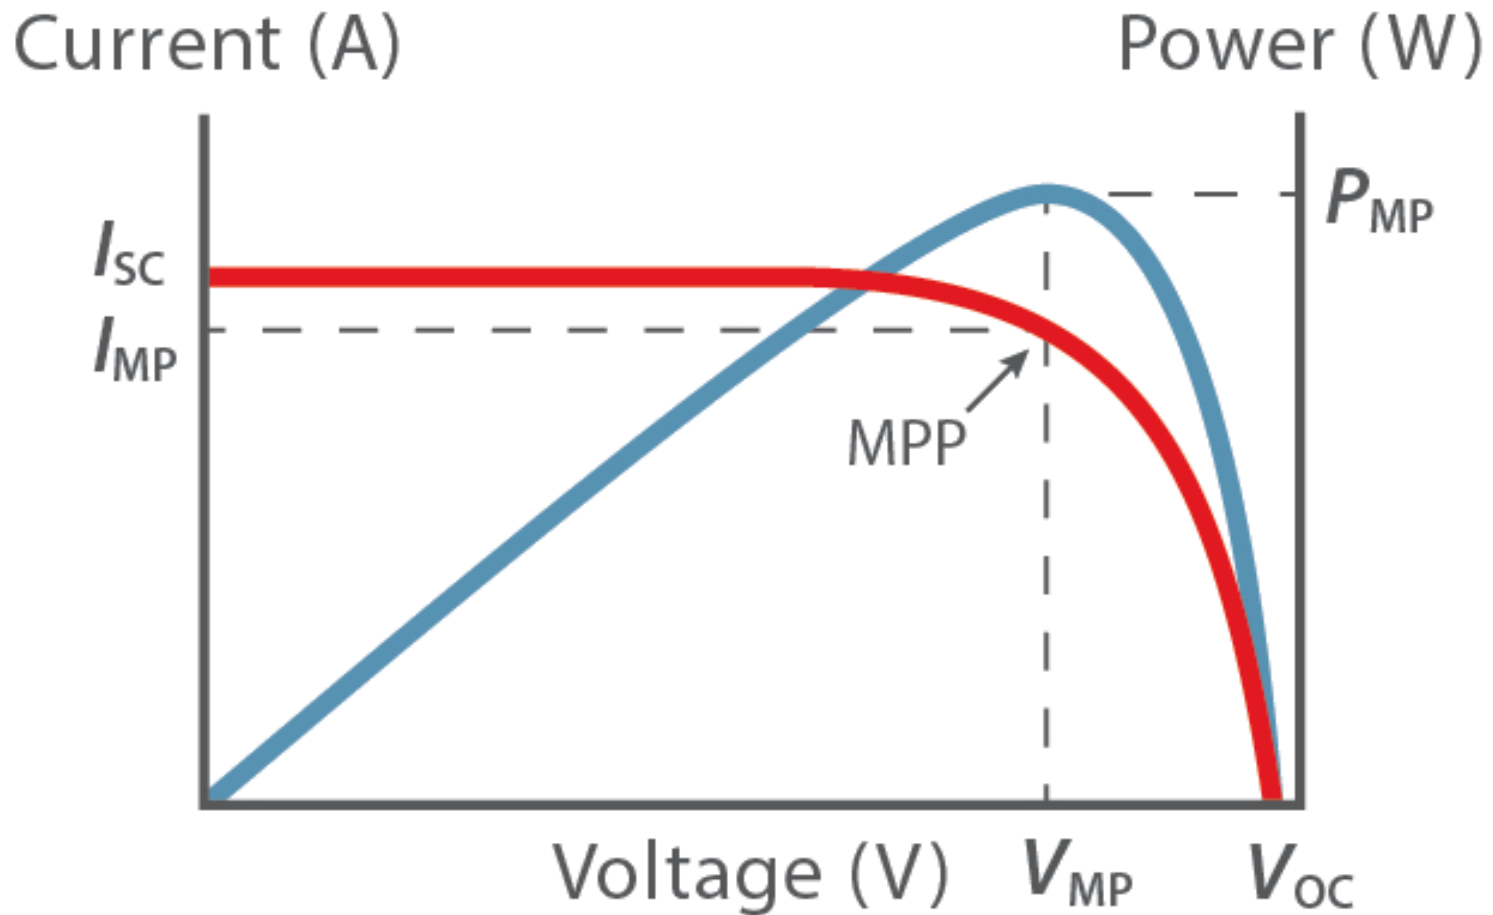

*Figure 6 Arrangement of cells in a half-cut cell module*
- Each half-cut cell produces the same voltage as a standard cell but only half the current, thus they are arranged in parallel strings (Figure 6) to mimic the voltage and current ratings of a conventional module. There are many benefits to this type of cell, many of which use PERC technology. The most prominent benefit is the reduction in current per individual cell, lowering resistive losses, which results in a gain in power per square metre.